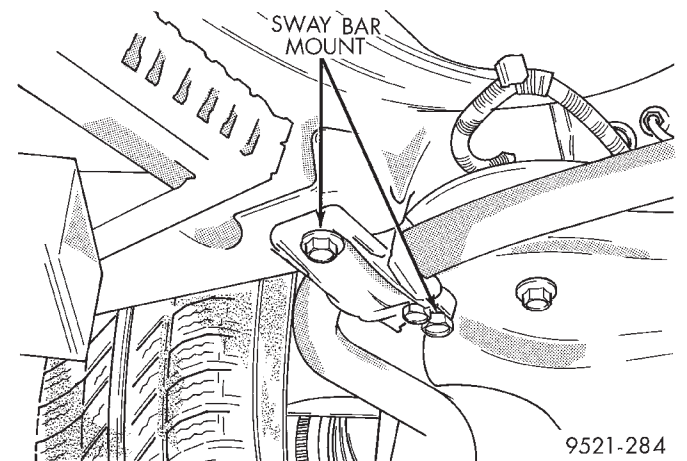

Fig. 55 Sway Bar Mounts
- (28) Remove sway bar mounts (Fig. 55).